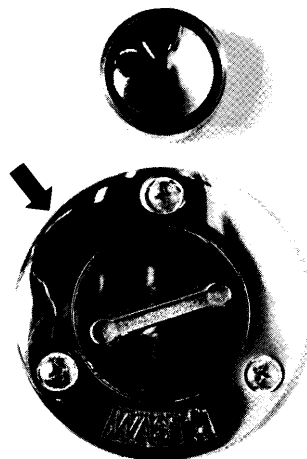

Figure 29
2. The cap to the waste deck fitting is in the covering board on the port side of the transom. See figure 29. A special key to unlock the cap is given to you. Insert the key in the slot in the cap.